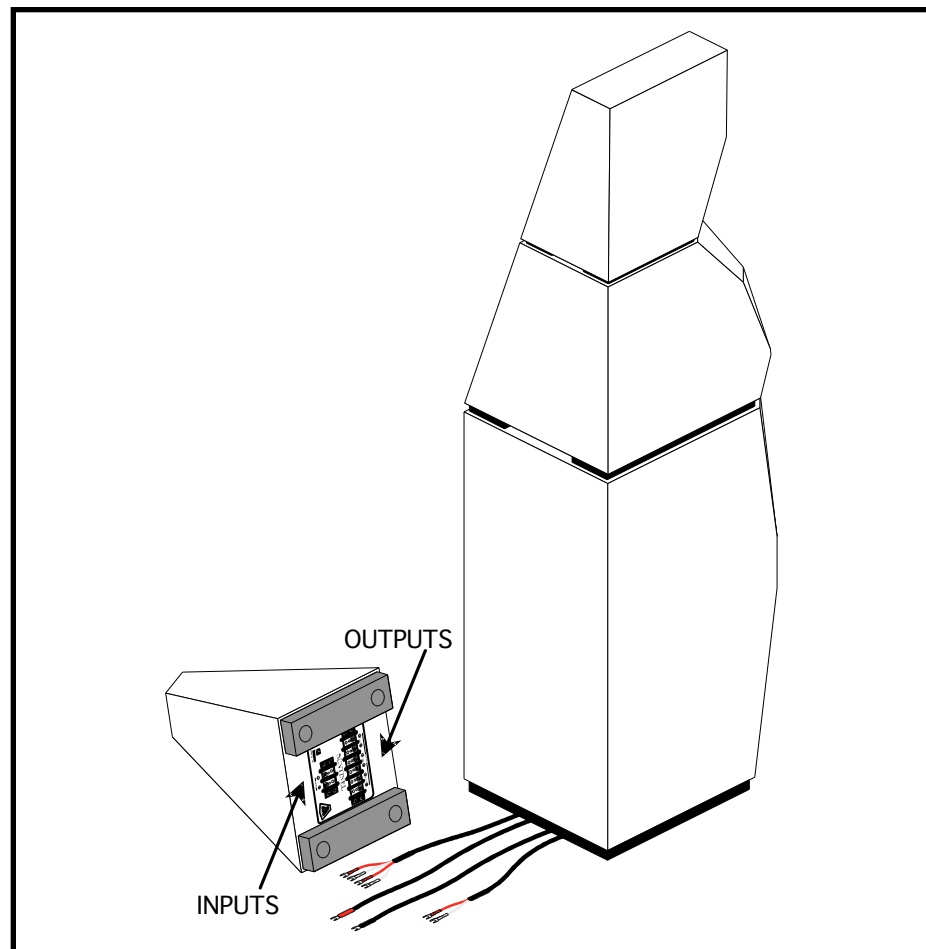

Figure 3.6 – Proper placement of crossover cabinet behind speaker.
1. Lay the crossover cabinet on one side, just behind the speaker cabinet, using a blanket or other soft material to avoid scratching the finish. The cabinet should be oriented so that output terminals are adjacent to the back surface of the speaker cabinets (see Figure 3.6).